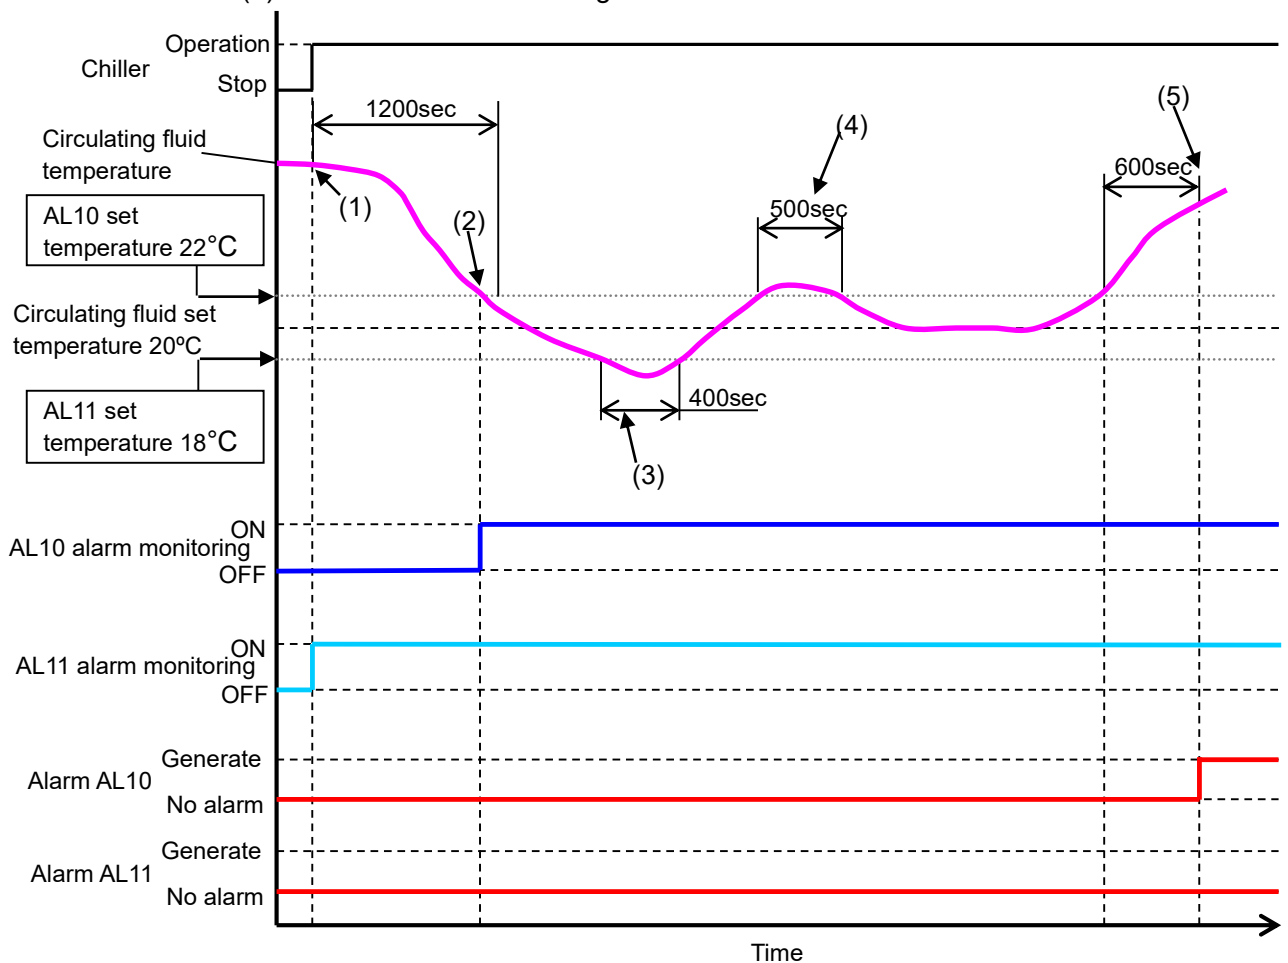

Fig. 5-5 Alarm monitoring timing
If [ RUN ] is selected as (3) "Monitor Timing" alarm monitoring condition, [ OFF ] and [ AUTO ] can be additionally selected. [ AUTO ] is a function to start alarm monitoring when the circulating fluid temperature rises/drops within the alarm setting temperature range in the time period specified by (4) "Start Time" (no monitoring time). Specific alarm monitoring timing is shown in "Figure 5-5 Alarm monitoring timing".